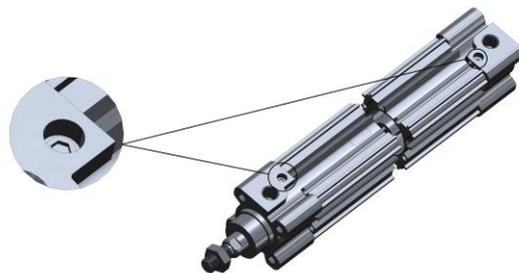

Figure11
- Check the cushions are set correctly. See Figure 11.